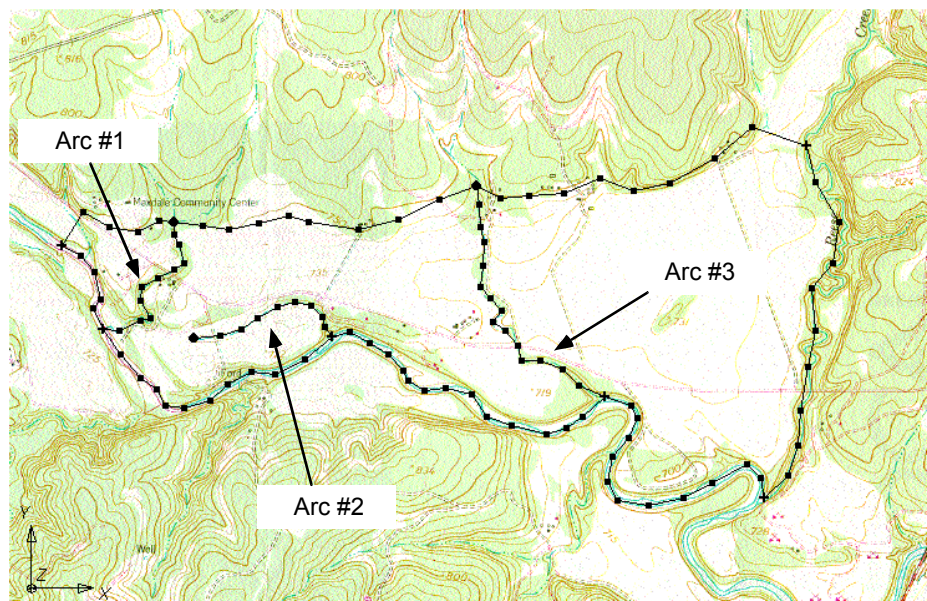

Figure 4. The Drain Arcs.
2. Create the arc labeled as arc #1 in Figure 4. Start by clicking on the bottom arc, create the arc by clicking points along the creek bed, and end the arc by double clicking on the top arc.
3. Create the arcs labeled arc #2 and arc #3 in Figure 4 the same way you made arc #1.